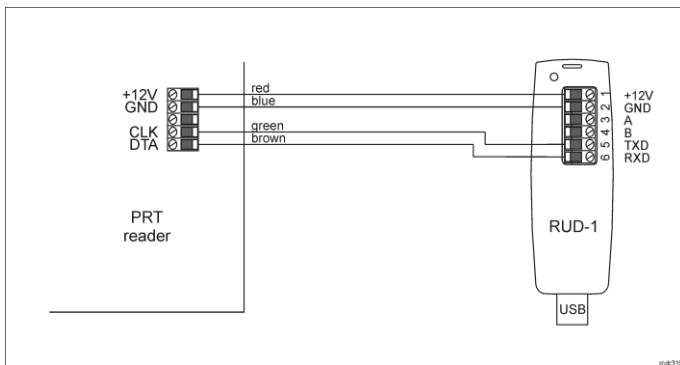

Fig. 1 Connection of PRT reader to RUD-1 interface
1. Connect the reader to RUD-1 interface (fig. 1) and connect the RUD-1 to computer's USB port.